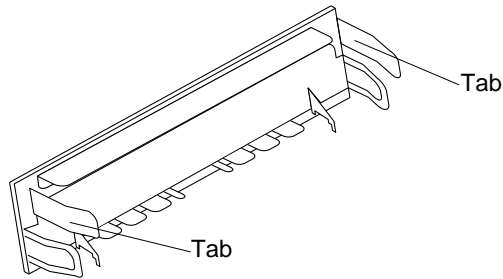

FIGURE 9-10 CD-ROM Drive Filler Panel
3. Remove the CD-ROM drive if installed (FIGURE 9-10).
4. **Remove the filler panel as follows (FIGURE 9-10):**